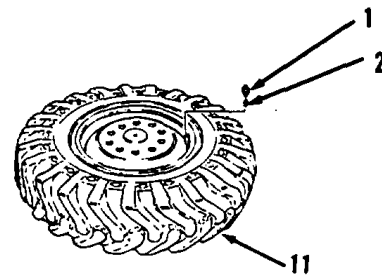

Figure 7-7.
11. Inflate tire (11) to 35 psi. You may have to compress tire (11), using chains and cable hoist to get the beads to seat.
13. Install valve core (2, Figure 7-7).
14. Inflate tire (11) to 35 psi, observing WARNING which precedes step 11.
15. Install valve cap (1).